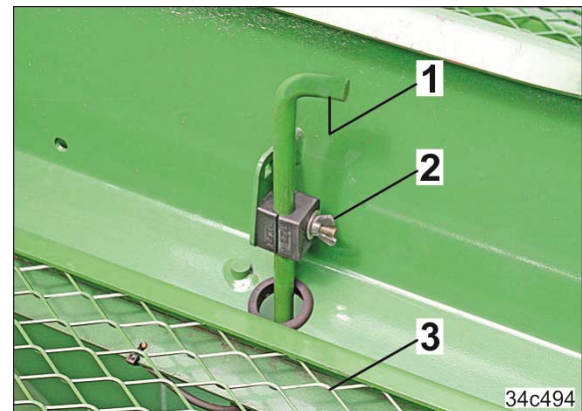

Fig. 113
- 7.1 Hold the adjustment rod (Fig. 113/1) with the low level sensor.
- 7.2 Loosen the wing nuts (Fig. 113/2) and adjust the height of the low level sensor according to the required residual seed volume.
The charging sieve (Fig. 113/3) protects against contact with the rotating metering roller and cannot be removed.